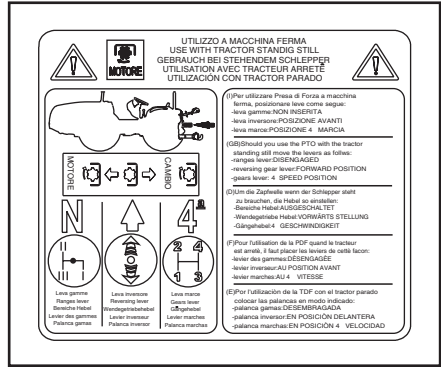

Fig. 2.26
28.1 58074880 (Fig.2.26)
28.6 58076077 (Fig.2.26)